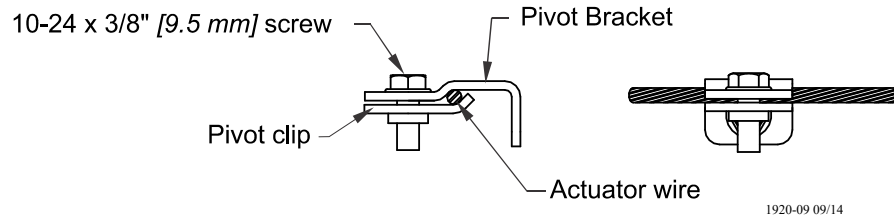

Figure 59. Clamping to actuator wire
3. Using the first pan away from the actuator, push the inner cone to the open position. Place the actuator wire between the pivot bracket and pivot clip then tighten the 10-24 screw, **see figure 59.**